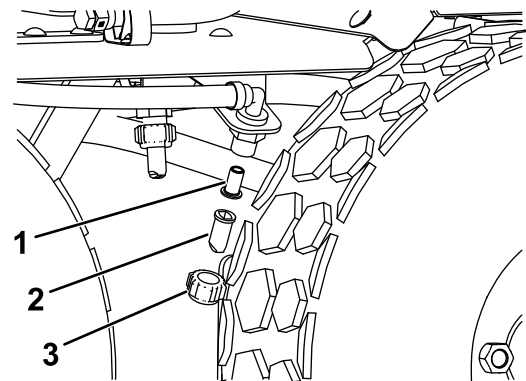

Figure 55
1. Clean the area around the spray nozzle (Figure 55).